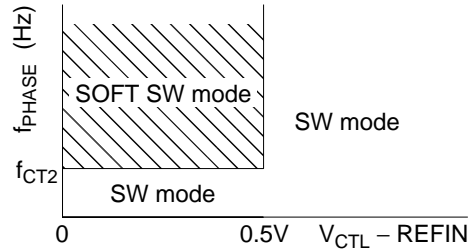

Figure 3
5. The circuit operates in soft switching drive mode only when the control input (V_{ctl}) is lower than f_{CT2} and f_{PHASE} is higher than the threshold voltage. See figure 3.